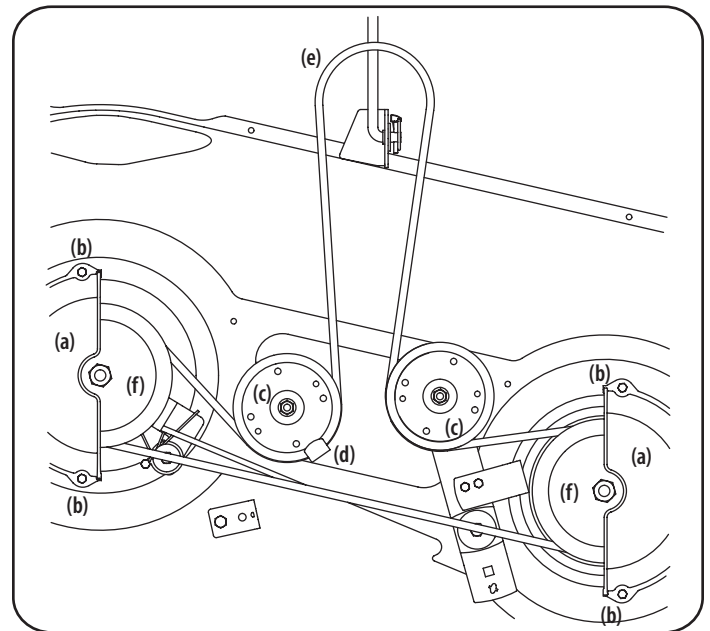

Figure 17
- Remove the belt covers (a) by removing the hex washer screws (b) that fasten them to the deck. See Figure 17.
- Carefully remove the deck belt (e) from around the two spindle pulleys (f) and the two deck idler pulleys (c). See Figure 17.
- To place the new belt, begin by routing the belt around the two spindle pulleys (f). Route the belt around the two deck idler pulleys (c). Retighten the left idler pulley hex nut loosened in step 3. Remount the belt covers removed (a) in Step 2. See Figure 17.
- Re-install the deck, making sure the belt remains routed around the pulleys as instructed. See Figure 17.